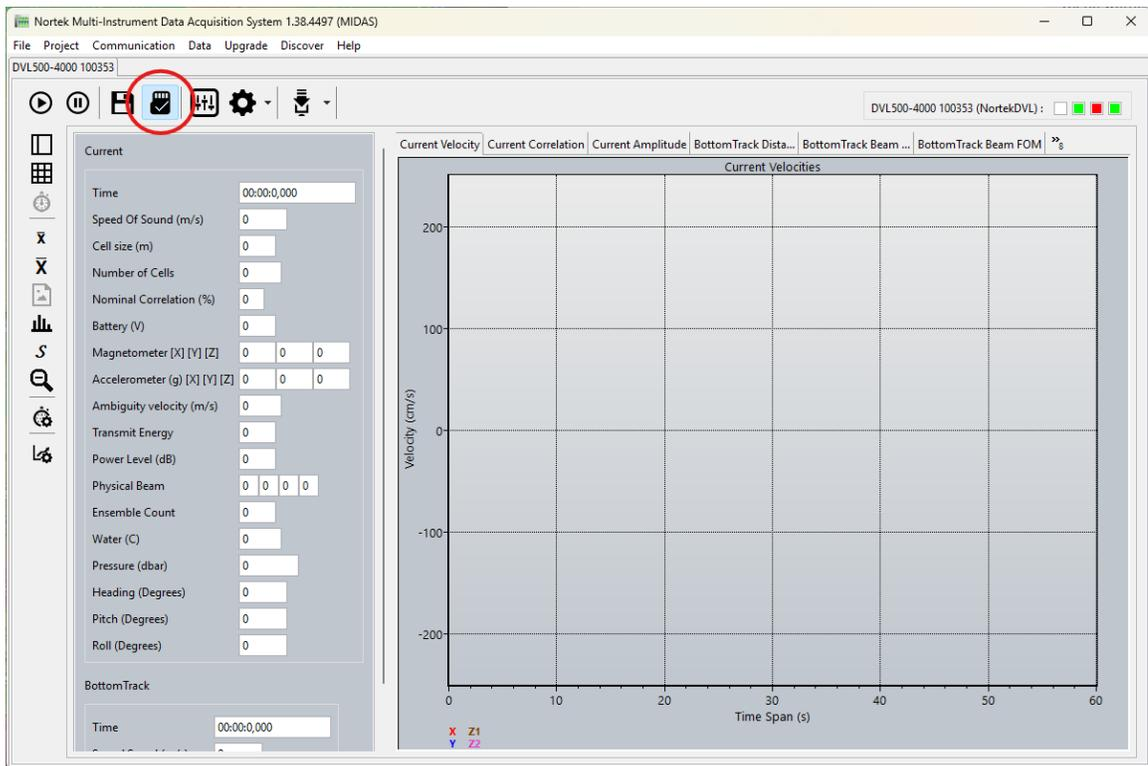

Figure 9: Midas Save to Internal Recorder
8. Alternatively, one may configure recording the spectrum to file on the DVL's recorder. Naturally the recording option is more sensible if there is not a suitable, real-time, communication channel and the DVL/Vehicle is below the surface. This is done by selecting the SD card icon on the Midas home screen (figure 9).